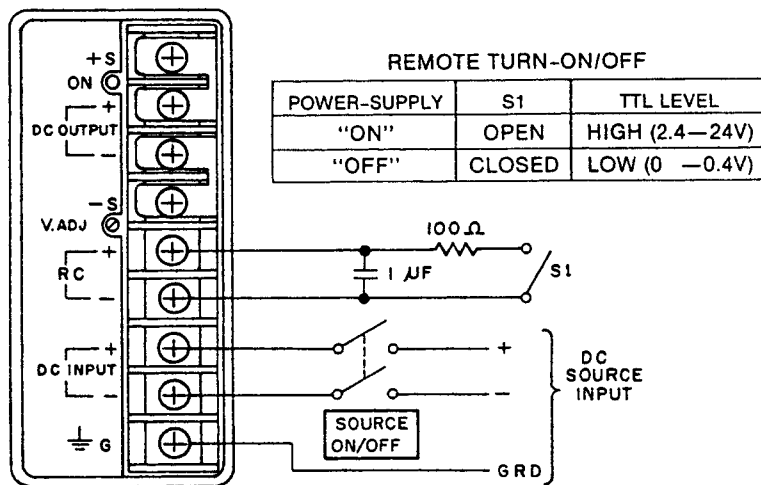

FIG. 4 CONVENTIONAL AND REMOTE
Source input power to the ERD power supply is applied in the conventional manner by means of an external power switch in series with one or both of the source input terminals, (see FIG. 4).
Following source turn-on, for systems applications the ERD power supply can be remotely programmed "on" and "off" by means of a contact closure, or TTL logic levels. This permits turn-on/off sequencing and avoids input surge current associated with conventional source power turn-on/off cycles. In FIG. 4 both the conventional and the remote d-c power turn-on/turn-off methods are shown:
- B) If the remote turn-on/turn-off method is used, retain the SOURCE POWER switch. **NOTE: Source power turn-on/turn-off must be retained since the overvoltage protector circuit is reset, following an overvoltage condition, by removing (5 seconds minimum) and re-applying the source power.** Either the indicated switch (S1) or TTL levels may be used for remote turn-on/off as indicated in the table of FIG. 4. The switch (S1) must be "chatter-free", or the indicated components should be used to integrate the switching pulse.
INTERNAL ADJUSTMENT (See FIG. 4 for location)